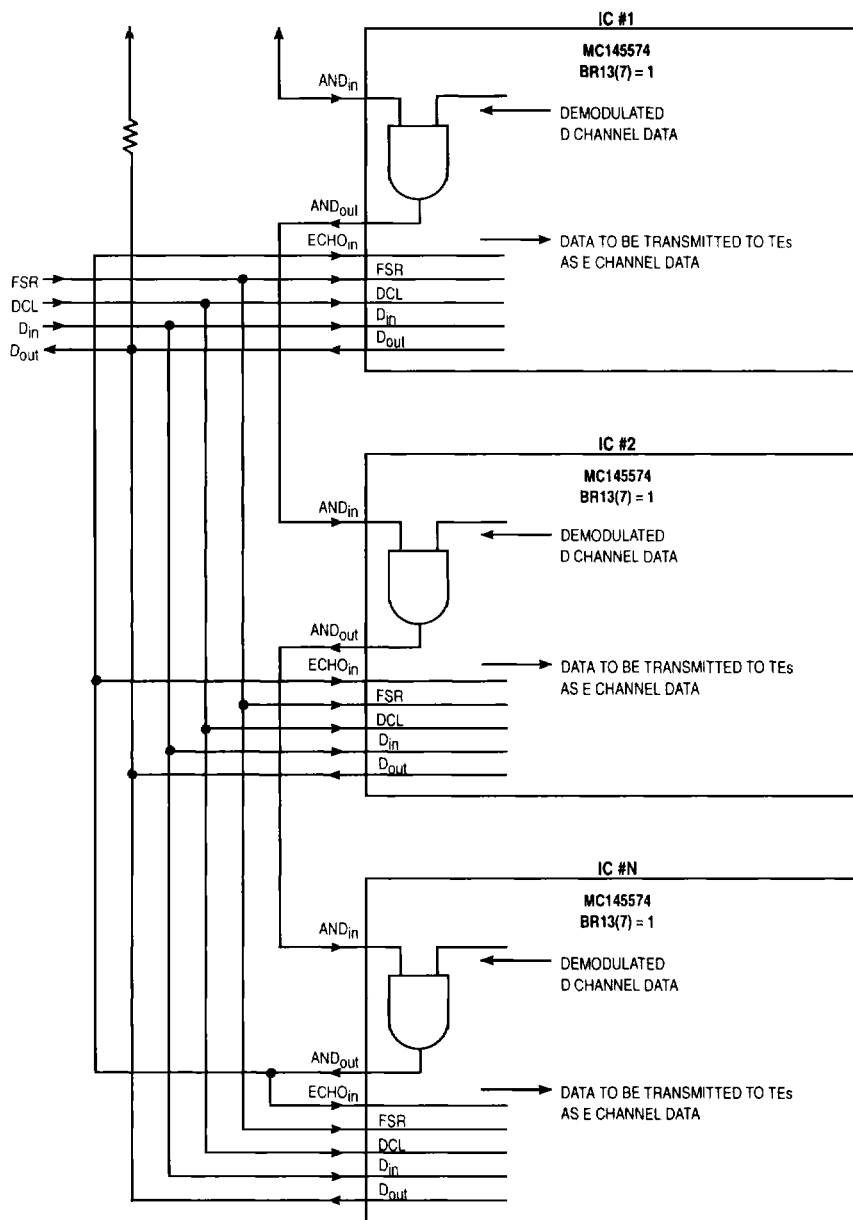

Figure 12. NT Star Mode of Operation
Figure 12 shows how to connect the multiple number of NTs in the NT Star mode. Successive connection of the AND_{out} (this is the output of an internal AND gate whose inputs are the demodulated D bits and the data on the AND_{in} pin) and AND_{in} pins, and the common connections of the ECHO IN pins, succeeds in sending the same E echo channel to each group of TE/TEs. To configure a series of NTs for NT Star mode, BR13(7) must be set to "1" in each NT. Data transmitted on IDL Tx in NT Star mode, will have the following format: a logic "0" is V_{SS}, a logic "1" causes IDL_{Dout} to go to a high-impedance state. This then permits the series wire ORing of the IDL bus. Note that one of the NTs must have its AND_{in} pin pulled high.